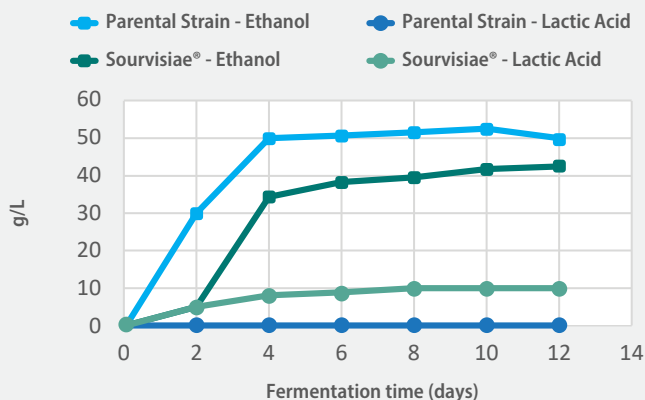

FIG. 5: Production of ethanol and lactic acid from Sourvisiae® compared to a conventional ale strain.
A typical fermentation with Sourvisiae® will reach a final pH of 3.0-3.2 and lactic acid concentrations of 8-15 h/L. It is important to monitor gravity, pH, and titratable acidity (TA) throughout fermentation. Measurement of TA in addition to pH is important because the pH of the beer is not linearly correlated with acid concentration (Figure 5). The pH buffers (stabilizes) as it approaches 3.0 and so larger increases in acidity result in smaller changes in pH at this point. TA, on the other hand, represents the actual concentration of lactic acid. Using TA to track acid production will result in more consistent lactic acid levels from one brew to the next. Visit our website for more information about Titratable Acidity.2